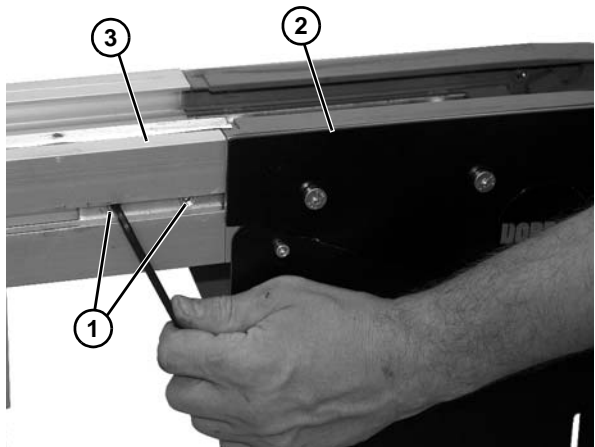

Figure 116
3. Loosen two screws (**Figure 116, item 1**) on each side of conveyor, and remove the drive tail assembly (**Figure 116, item 2**) from the conveyor frame (**Figure 116, item 3**).